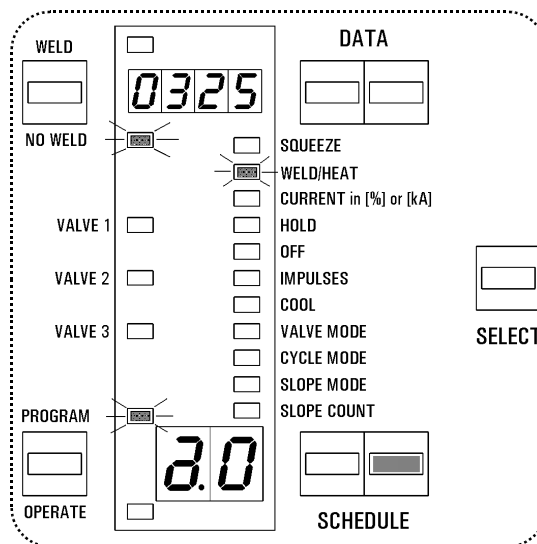

Figure 7.3 Program weld count
5. Press the SCHEDULE push buttons to find [**2.0**] in the SCHEDULE display, Fig. 7.3.